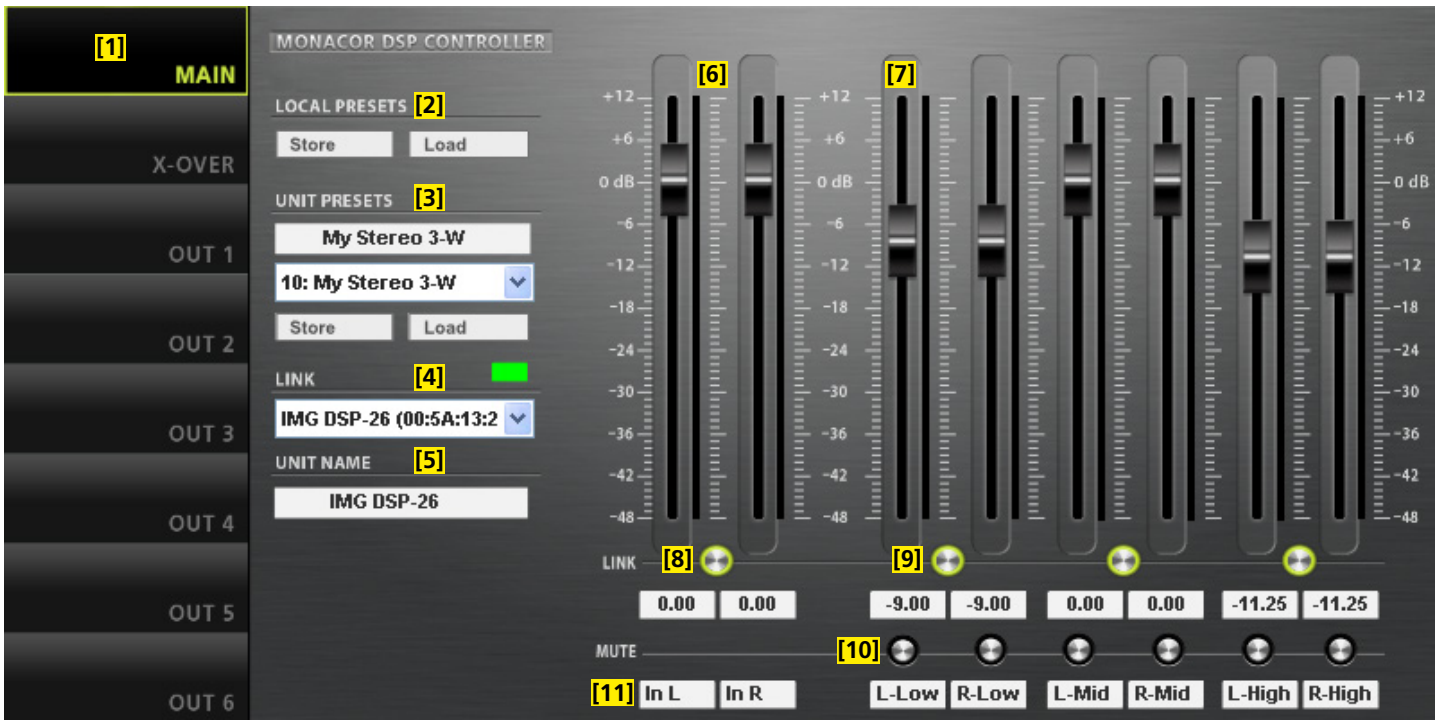

Fig. 10 Configuration window in the view MAIN
8. Button Ⓢ to call up the configuration window (fig. 10) for a unit that is “online”
Various virtual units with the additional designation "DEMO ..." will be added to the list. As for real units, the button  can be used to call up the configuration window ( fig. 10).
When the unit is in the access level "Development", the firmware may be updated via the menu of the configuration window (fig. 10; Hardware ▶Firmware Update).
The configuration window (fig. 10) with the view MAIN for the unit selected will appear. The colour field on the left-hand side, next to LINK [4], will indicate the connection status of the unit. When the
6.3.2 View MAIN (fig. 10)